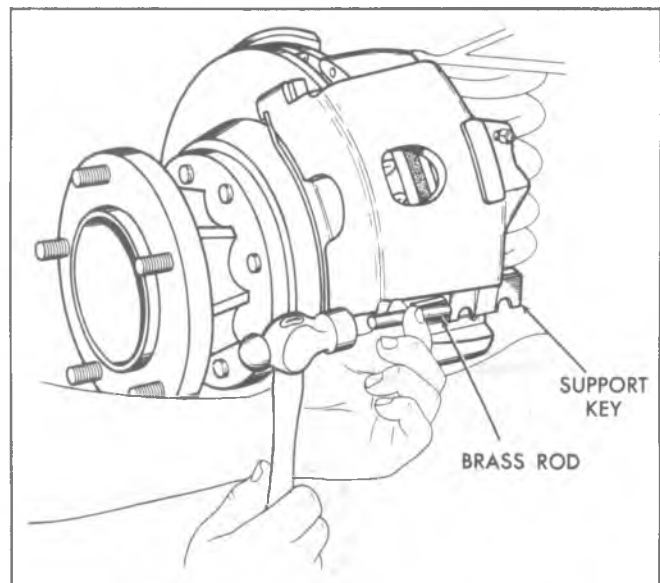

Fig. 5-34--Removing the Caliper Support Key
4. Remove the bolt at the caliper support key. Using a brass punch, remove the key and spring (fig. 5-34).